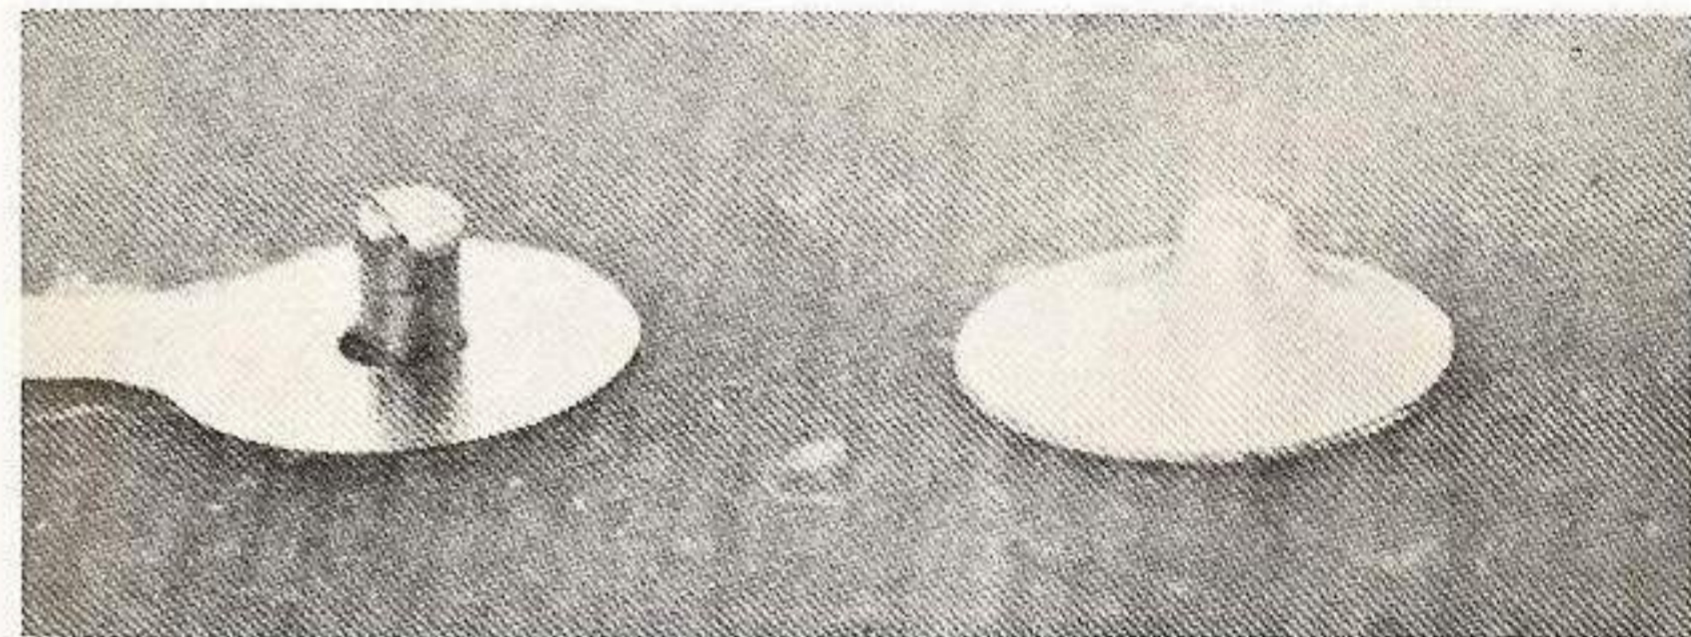

Figure 35. Clipped Component Leads
f. Component leads that cannot be bent or clinched flush with the circuit shall be properly cleaned and cut to a length that will permit the lead to extend 1/32 inch above the solder pad. Components mounted in the above manner shall be secured rigid to the board with a suitable mounting clamp or approved epoxy resin. To minimize this type of connection, components designed for printed circuit application should be used when obtainable. See figure 35.